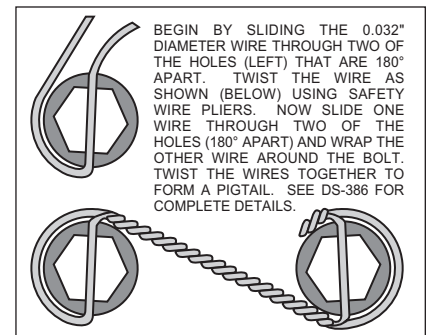

Figure 6. Safety Wire Diagram
- Slide the bracket kit assembly (1) onto the housing flange and then insert the axle assembly through the center hole of the bracket kit assembly (1). Align the bearing retainer (2) with the four holes inside the bracket assembly (1) and secure using the stock Original Equipment Manufacturer (OEM) bolts and nuts. Stock OEM hex nuts that retain the bracket kit assembly (1) and retainer (2) should be on the wheel side of the bracket. Apply red *Loctite*® 271 to the stock OEM bolt threads and torque to OEM specifications. Make sure the bracket kit assembly (1) brake pads are **FACING OUTWARD TOWARDS THE WHEEL**.
- With the larger I.D. side of the rotor (4) facing away from the hat (3), bolt rotor (4) to hat (3) through the backside of the rotor using washers (5) and bolts (6). Torque bolts (6) in an alternating sequence to 103 **in-lb**. Safety wire bolts (6) using standard 0.032 inch diameter stainless steel safety wire as shown in Figure 6. Please refer to Wilwood's data sheet DS-386 (available at www.wilwood.org/ds386.pdf) for complete safety wire installation instructions.